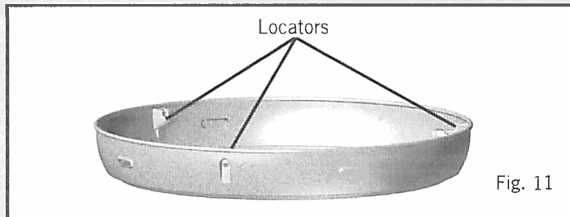

Fig. 11
- The BBQ Grid locates on three die-cast locators in the fat pan (Fig. 11).
- The Chef Pan locates on three die-cast locators in the fat pan (Fig. 11).
- The Grill2Braai locates on three die-cast locators in the fat pan (Fig. 11).